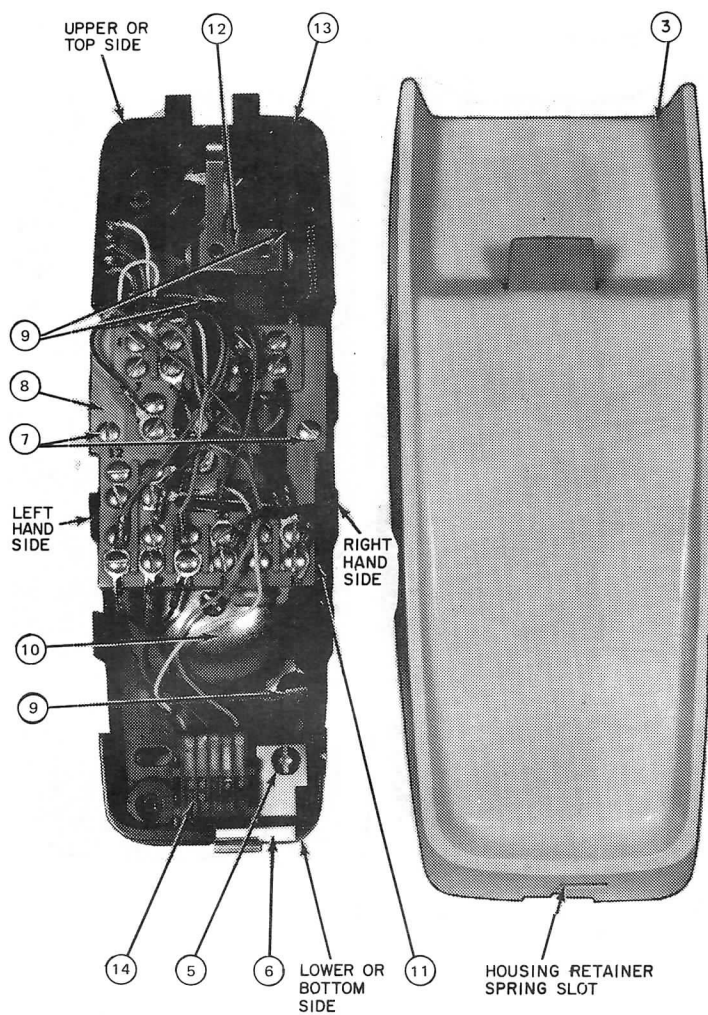

Figure 6. Type 982 Wall Base, Housing Removed.
- (a) Replace the housing retainer spring to the base, by locating the spring on the right hand side of the handset retractile cord connector at the bottom of the base. The curved portion of the spring clip extends above and below the bottom of the base (Figure 6). Secure the housing retainer spring to the post in the base by the mounting screw.